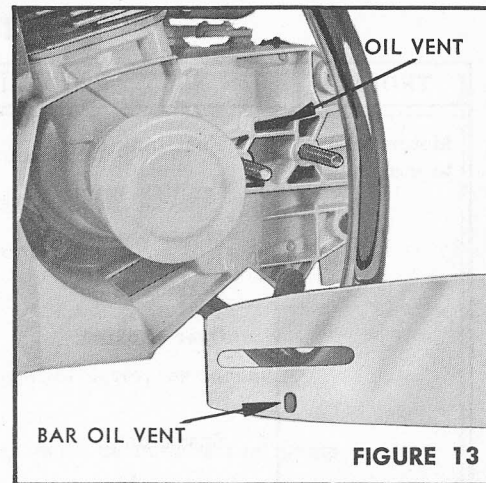

FIGURE 13
9. **CUTTER BAR:** Make sure the bar is clean at all times to assure sufficient chain lubrication (figure 13). Check the cutter bar for wear at regular intervals and turn it over from time to time to make sure the wear is distributed evenly. As wear takes place, a sharp edge is left on the extreme edge of the groove and this should be removed with a file . . . Care must be exercised in servicing bar to prevent damage to chain groove. Use Bar Gauge No. 426235.